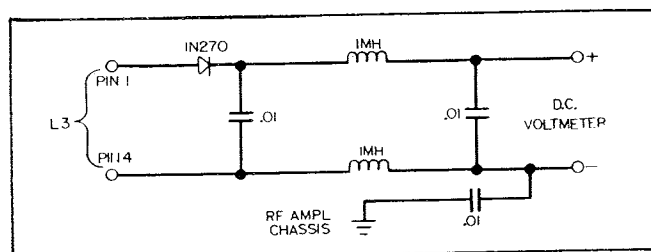

Figure 6.5 - Feedback Detector Test Circuit
- Connect feedback detector test circuit to terminals E157 and E158. See figure 6.5.
- Connect a DC voltmeter to the detector circuit as shown in figure 6.5.